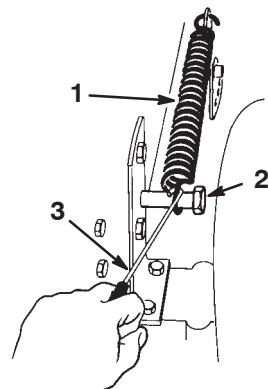

Figure 37
5. Remove the height-of-cut lift assist spring from the retaining bolt (Fig. 37). The spring is between the frame and the right rear wheel.
13. Move the height-of-cut lever into the D notch. Hook the lift assist spring onto the retaining bolt for storage (Fig. 37).